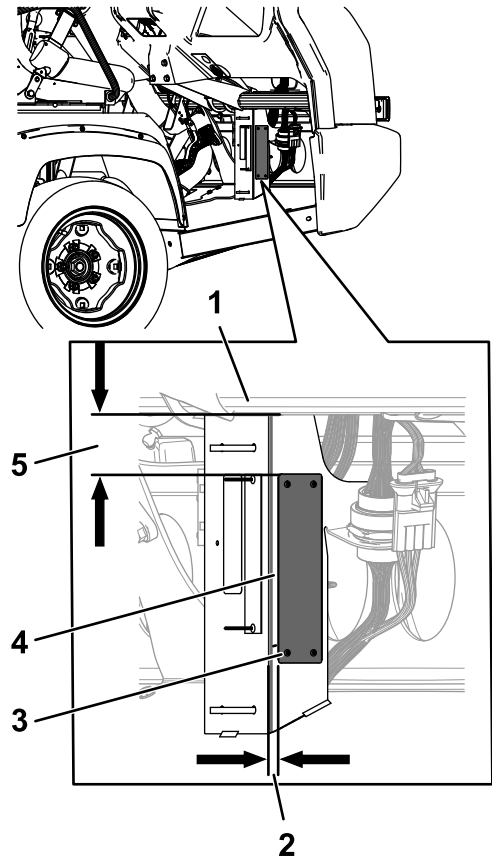

Figure 8
- Install the serial plate using 4 pop rivets (3 x 10 mm) in the location shown in Figure 8.